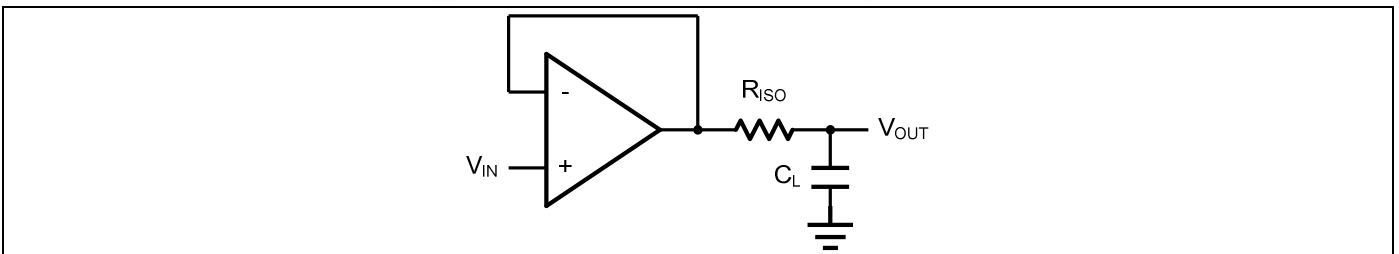
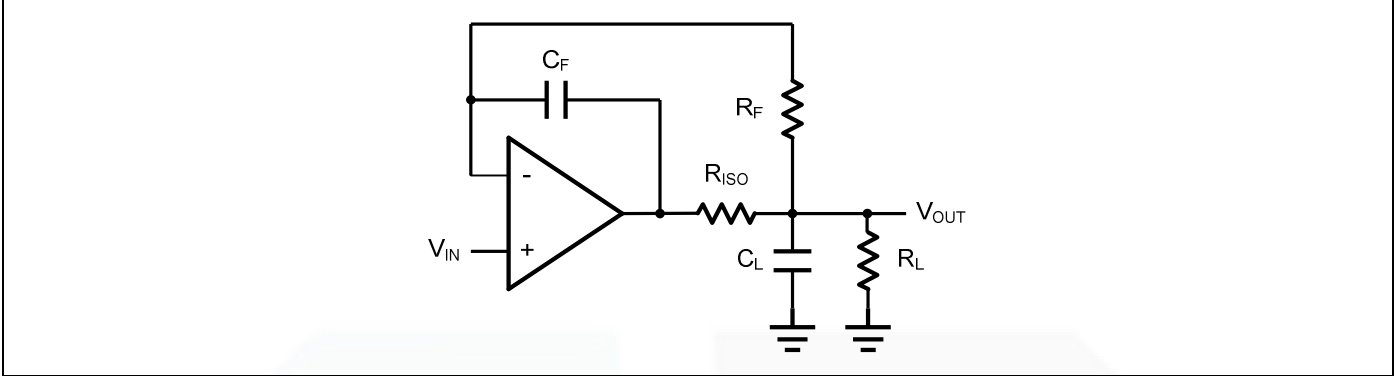

Figure 2. Indirectly Driving a Capacitive Load Using Isolation Resistor
Figure 3. Indirectly Driving a Capacitive Load with DC Accuracy
The GS833x family is optimized for bandwidth and speed, not for driving capacitive loads. Output capacitance will create a pole in the amplifier's feedback path, leading to excessive peaking and potential oscillation. If dealing with load capacitance is a requirement of the application, the two strategies to consider are (1) using a small resistor in series with the amplifier's output and the load capacitance and (2) reducing the bandwidth of the amplifier's feedback loop by increasing the overall noise gain. Figure 2. shows a unity gain follower using the series resistor strategy. The resistor isolates the output from the capacitance and, more importantly, creates a zero in the feedback path that compensates for the pole created by the output capacitance.
The circuit in Figure 3 is an improvement to the one in Figure 2.  $R_{\text{F}}$  provides the DC accuracy by feed-forward the  $V_{\text{IN}}$  to  $R_{\text{L}}$ .  $C_{\text{F}}$